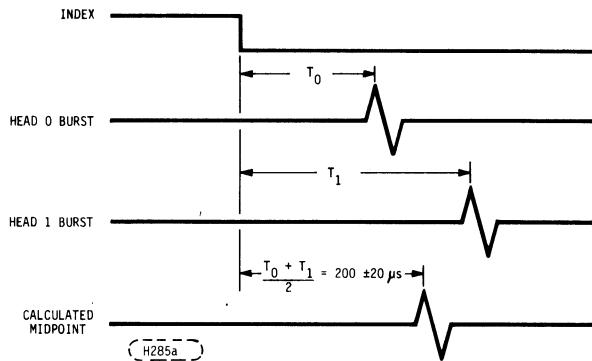

FIGURE 6-4A. INDEX TO BURST TIMING ADJUSTMENT
- f. Adjust the time from the leading edge of the Index pulse to the midpoint between the burst pulses of Head 0 and Head 1 at Track 34 until it measures  $200 \pm 20$  us. (refer to Figure 6-4a). To adjust the index to burst time turn index potentiometer on the Data Control PWA.